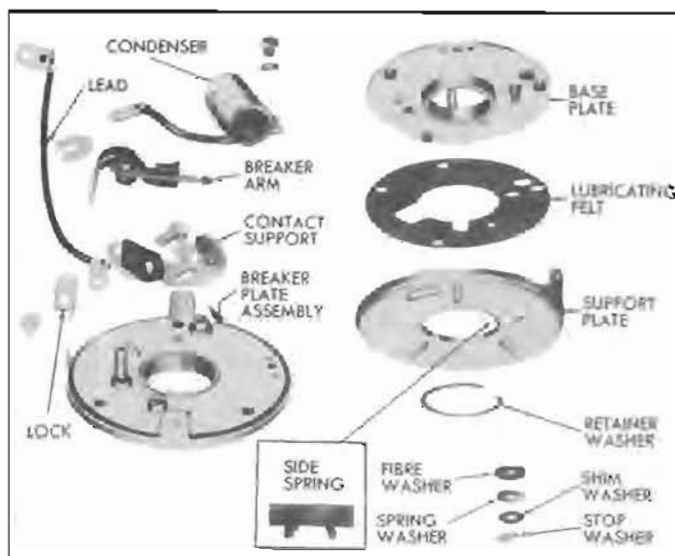

Figure 10-75—Breaker Plate Disassembled
7. Inspect breaker plate assembly for looseness which would permit tipping or rattling of the base plate. Normally it is unnecessary to disassemble this unit; however, if it is very dirty it may be disassembled for cleaning and inspection. Remove stop washer and shims from base plate post, remove retainer washer from base plate hub and separate the parts. See figure 10-75.
When reassembling the breaker plate, saturate the felt washer with 10W engine oil, then install base plate on support plate. Place the small side spring in recess in support plate so that the two points will be between the ends of retainer washer when installed. The spring helps to prevent side play of base plate. Install one retainer washer in groove of base plate hub; the hub is staked at four places to provide end play of approximately .015" between base plate and support plate. Place fibre, spring, shim and stop washers on base plate post in the order named. See figure 10-75.